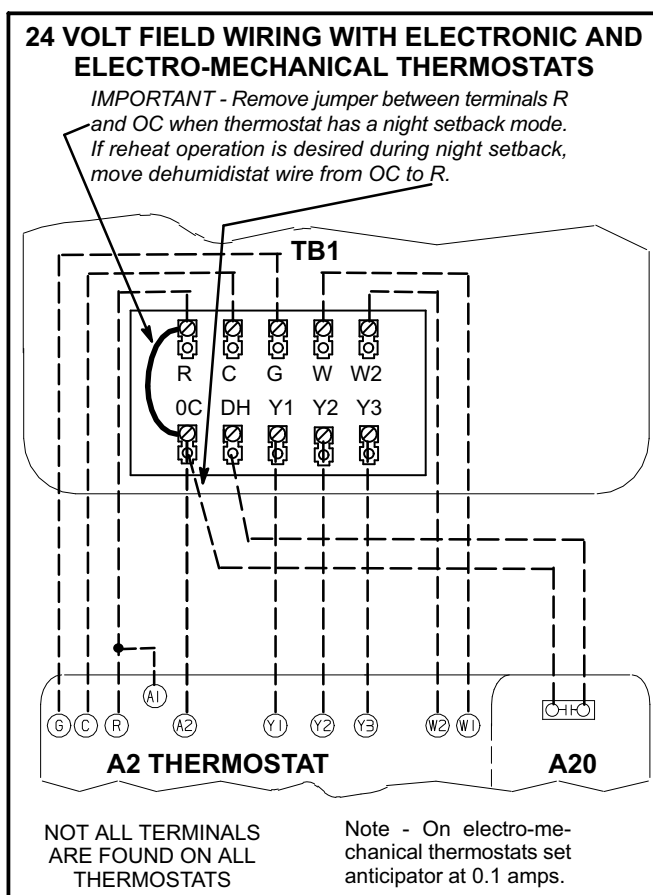

FIGURE 13
- 3- Connect thermostat wiring to TB1 terminal board on the lower side of the controls hat section. Wire as shown in figure 13 for electro-mechanical and electronic thermostats. If using other temperature control devices or energy management systems see instructions and wiring diagram provided by manufacturer.
- 2- Connect dehumidistat and/or thermostat wiring to TB1 as shown in figure 13.